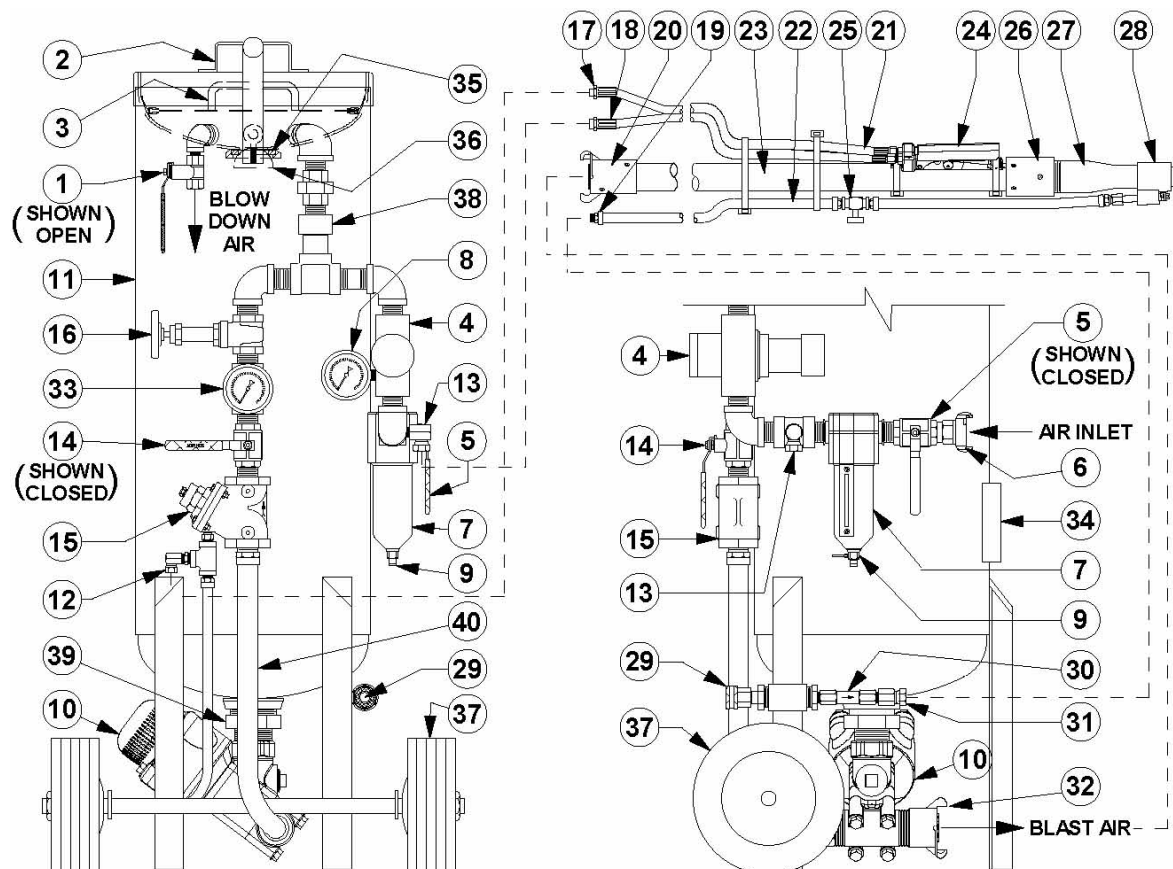

Figure 7.3 – Typical Mini Abrasive Blaster
7.3 Ending the Blast Operation (See Figure 7.3)
- 7.3.1. Close the air inlet ball valve (#5). The ball valve is closed when the handle is fully turned to the position shown in Figure 7.3 (handle perpendicular to body). The handle tab will bottom against the ball valve body in the closed position.
- g) If the popup must be replaced it can be removed from the blast vessel through the abrasive outlet at the bottom of the vessel. Remove the Thompson Valve® II (#10) and the outlet bushing (#39). See Figure 7.3.